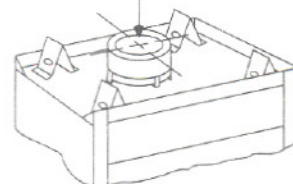

Figure 13
5. Marking the exit point in the roof. Locate the point where the chimney will exit the roof by plumbing down to the center of the chimney. Drive a nail up through the roof to mark the center. See Figure 13.